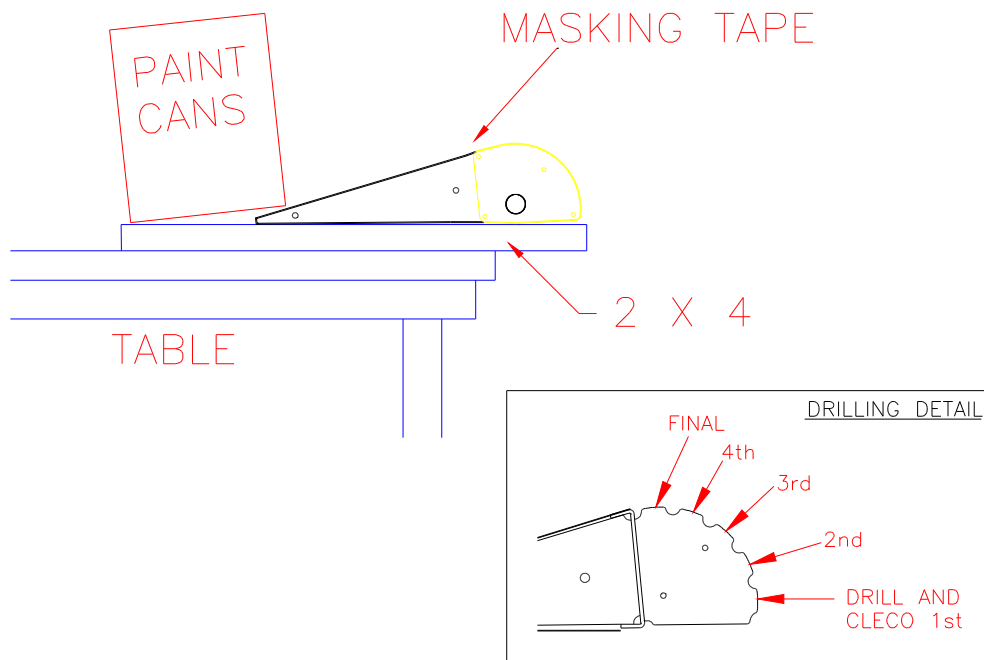

Figure 7.3.5
- 10) Attach the Leading Edge Ribs to the Flap Skin, working from the center toward each end, and from the bottom of the nose to the Flap Spar. Drill and cleco as you go. Masking tape or packing tape may be used to assist in pulling the skin around the Leading Edge Ribs. The center lines on the ribs should be visible through the holes in the skin. Use a sharp #40 drill bit and press lightly. The rib tabs bend easily. Figure 7.3.5.
13) Disassemble and debur. Dimple the top three holes (marked final, 4th and 3rd in figure 7.3.5) closest to the spar line on every leading edge rib. Rib stations 5 and 7 must have all the leading edge holes dimpled. Figure 7.3.6.